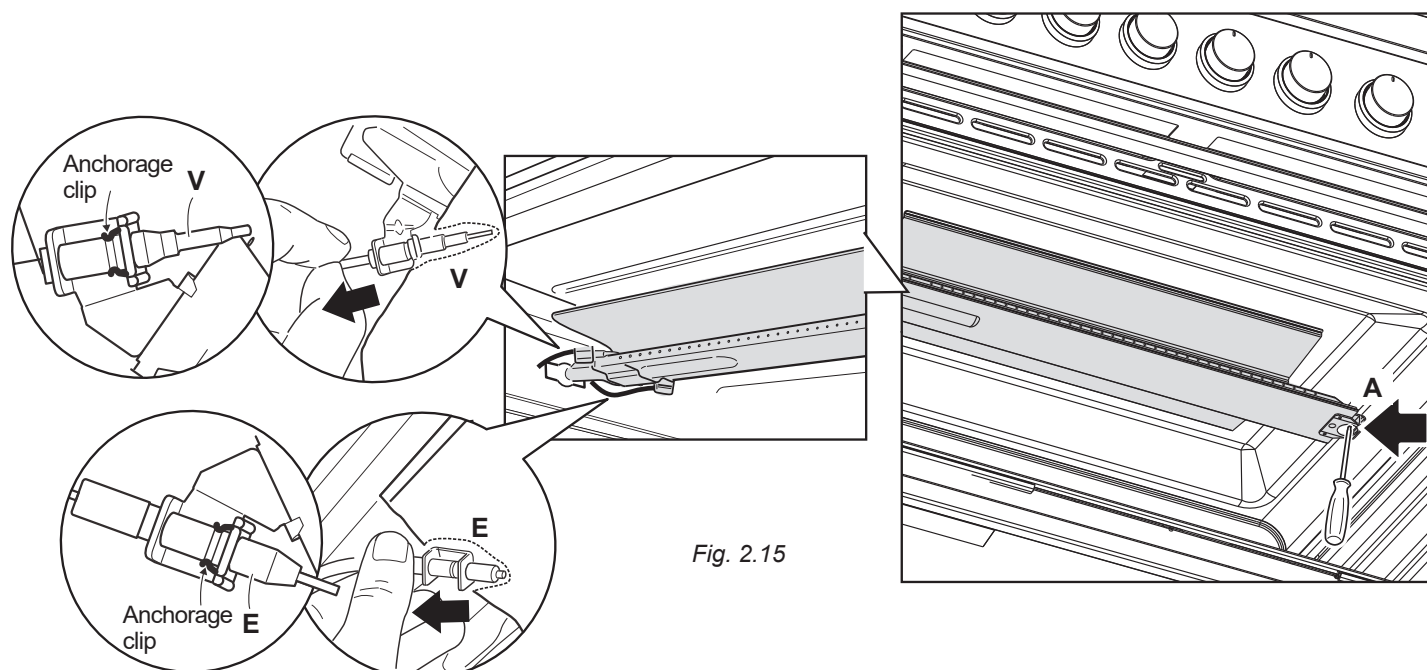

Fig. 2.15
- Gently unlock, from the burner, the safety valve probe "V" and the ignition electrode "E" (as indicated in fig. 2.15). Take care not to damage the probe and the ignition electrode.
- Unscrew and remove the burner securing screw "A" (fig. 2.15).
IMPORTANT: Pay special attention to replace correctly the safety valve probe "V" and the ignition electrode "E" as per figure 2.15. Check the correct operation of the safety valve and the ignition electrode.